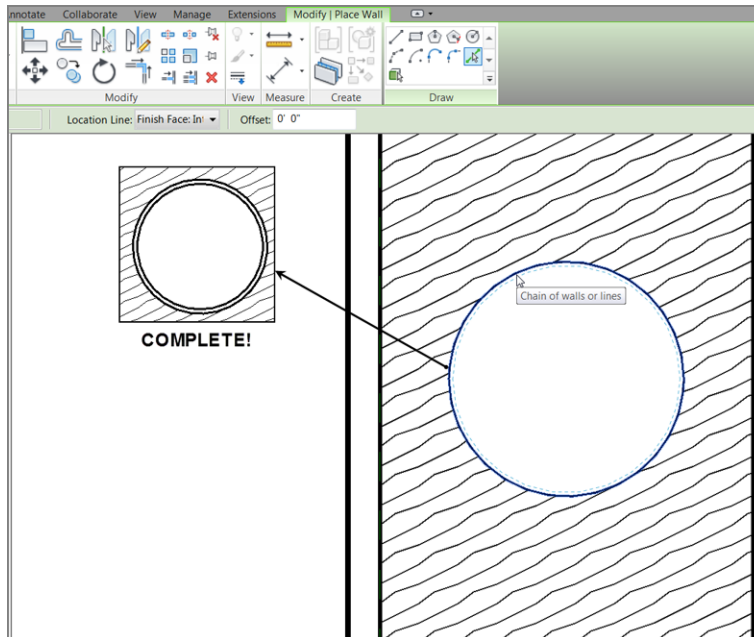

FIGURE 9.26: Creating one cool soffit
3. The entire circle is selected, and the blue alignment line is facing the inside of the hole (see Figure 9.26). When you see this, pick a point to the inside of the hole.